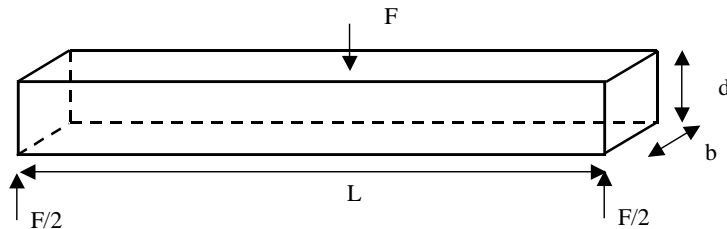

Figure 2
- * **3.** As much as half the cost of a house is associated with the building material. A simply supported floor beam of fixed length $L = 3\text{m}$ with a rectangular cross section is subject to a central load $F = 2\text{kN}$, as illustrated in Figure 2. The central deflection δ should be less than 5 mm, and the stress must not exceed σ_f anywhere in the beam. The breadth b is fixed and is equal to 100 mm, but the depth d of the beam can vary, with the constraint that d must not exceed 100 mm. Some pertinent formulae for this geometry are given below.